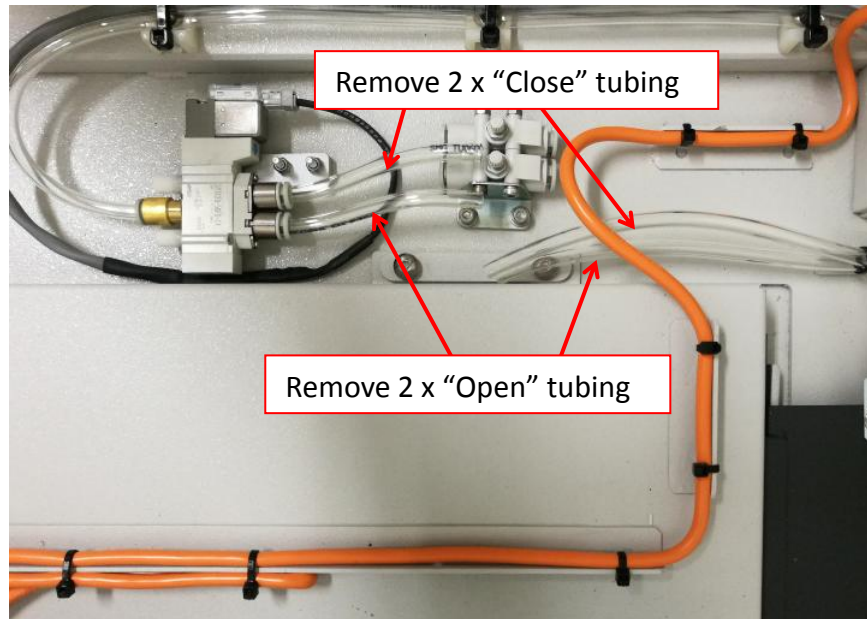

Figure 1 Tubing removal
3. Remove 4 x Tubing as Figure 1.